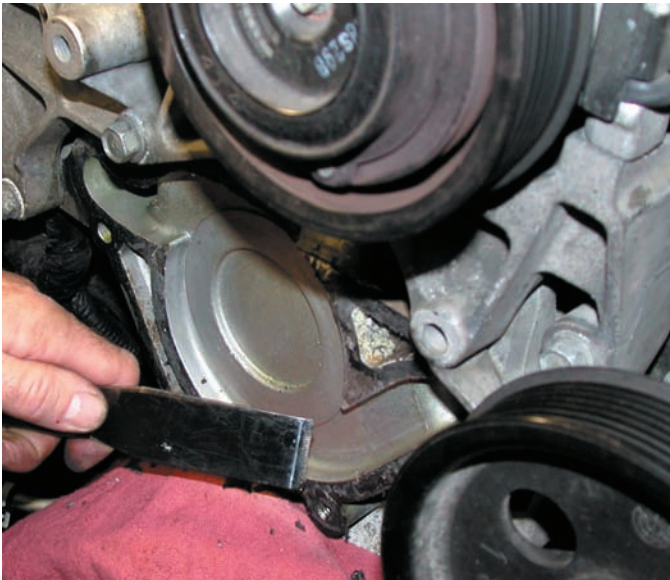

FIGURE 23-2 Use caution if using a steel scraper to remove a gasket from aluminum parts. It is best to use a wood or plastic scraper.
- STEP 5** Clean the gasket surfaces and install the new water pump using a new gasket or seal as needed. ● **SEE FIGURE 23-2.** Torque all fasteners to factory specifications.